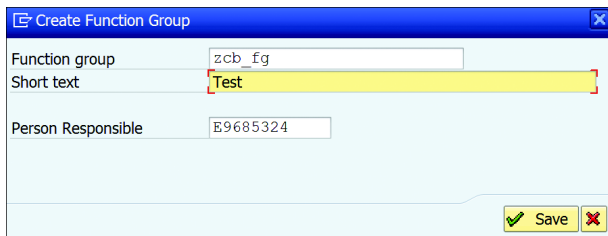

Figure 7.11 Create Function Group
3. On the dialog screen that appears, as shown in Figure 7.11, enter a name for your function group (here, we entered "zcb_fg"). The name of a function group can be up to twenty-six characters long. This name is used by the system to create the components of the group (the main program and corresponding include programs).